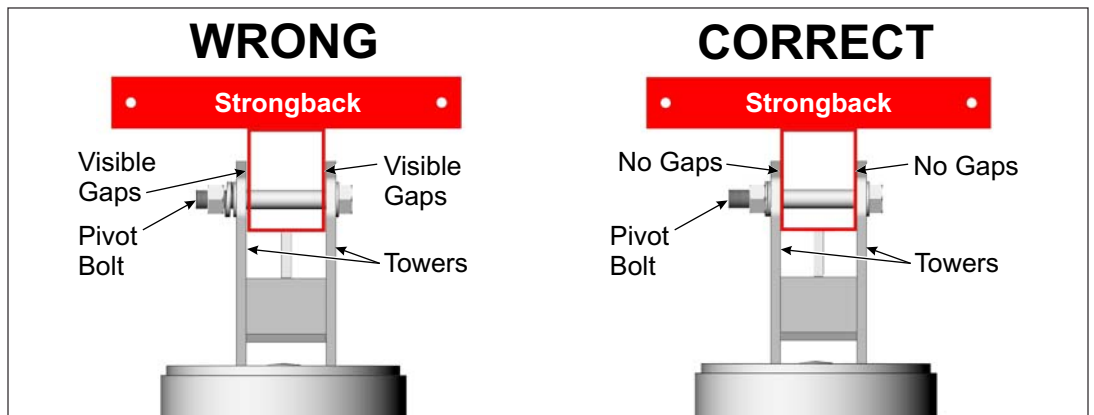

Figure 2-4: Tighten and Torque the Pivot Bolt
- G. Return and tighten the Pivot Bolt. The Pivot Bolt cannot be left loose - the Mounting Sleeve Vertical Towers must be firmly clamped to the sides of the Strongback, eliminating any gaps between the Vertical Towers and the Strongback. **Torque to 330-350 ft.-lbs.** (See Figure 2-4)